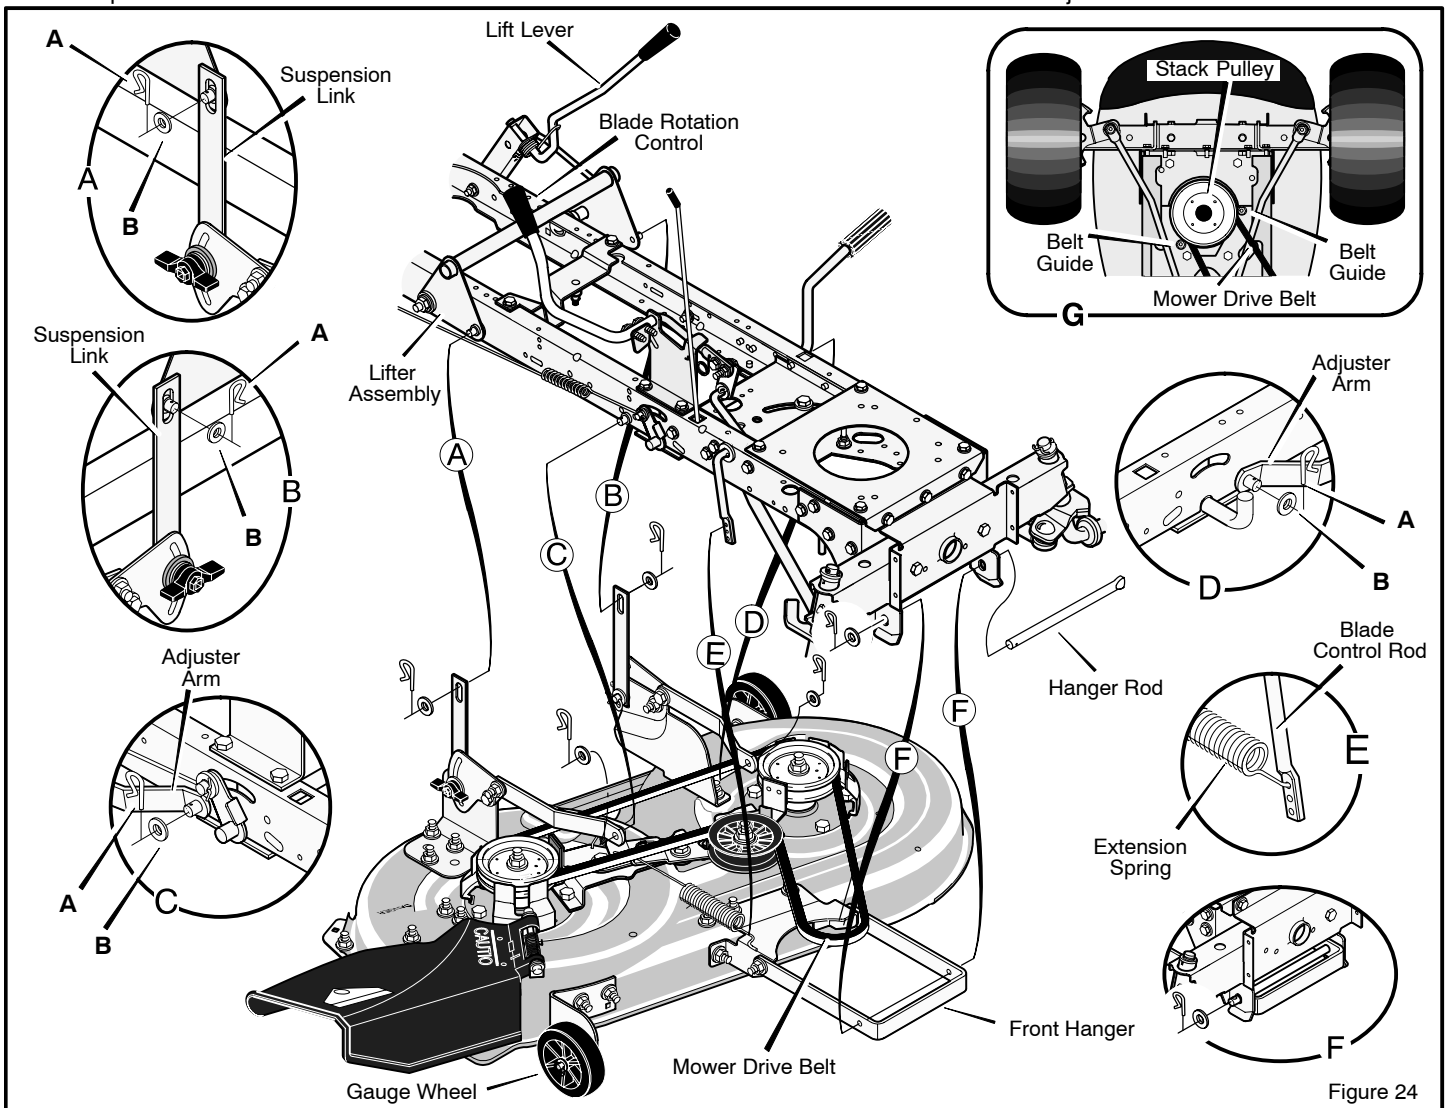

Figure 24
4. Remove the hair pins and the washers from the **adjuster arms** (Figure 24). See illustrations "C" and "D".